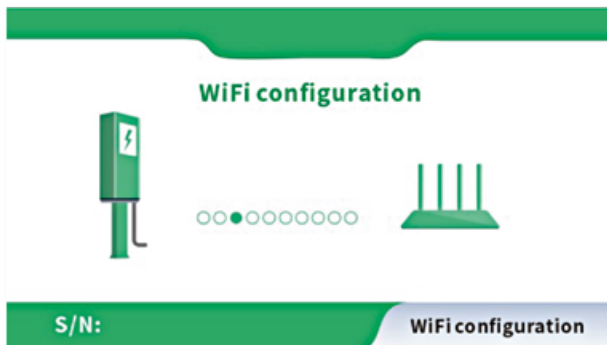

Fig. 6-5 The WiFi configuration page
- e) Press and rotate to reset the emergency stop button 3 times in a row until the four indicator lights turn on in a cycle according to the running lamp mode. At the same time, the LCD screen will switch to the WiFi configuration page (shown as Fig. 6-5)